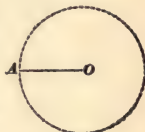

FIG. 40.
69. The **radius** of a circle, AO (Fig. 40), is a straight line drawn from the center O to the circumference. It is equal in length